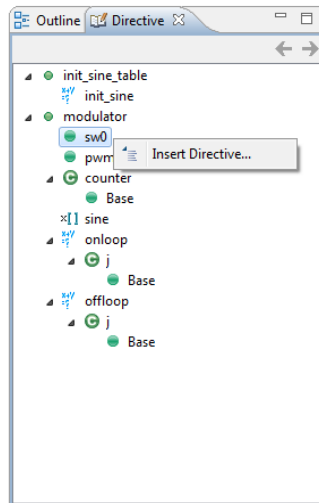

Figure 2.39: Insert Directive option
1. To apply a directive, select an object in the **Directive** tab (in our case, **sw0**), right-click on it and choose **Insert Directive...** option to open the **Vivado HLS Directives Editor** dialog box, see Figure 2.39.